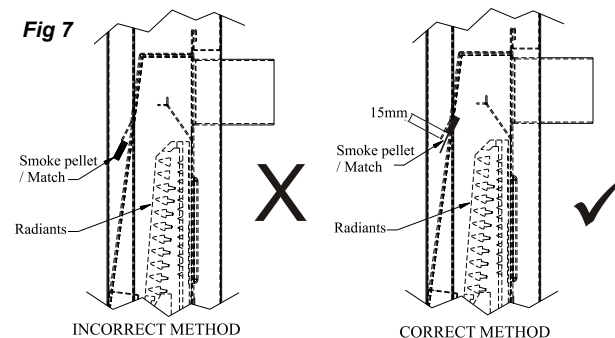

Fig 7
- Test for spillage (see fig 7).
- Turn off and insert a lighted smoke pellet or match into position indicated in diagram. (Fig 7)